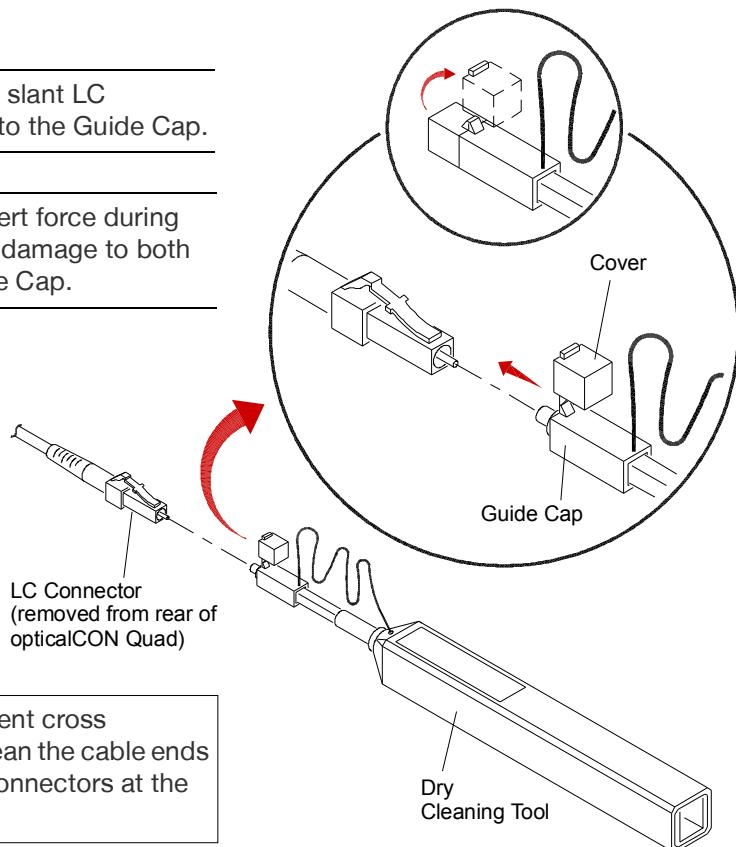

Figure 29: Quad Chassis Connector Cleaning (Field)
- Step 2. Open cover of Guide Cap (Figure 29).
- Step 3. Insert LC connector into Guide Cap while observing cautions as shown in Figure 29.